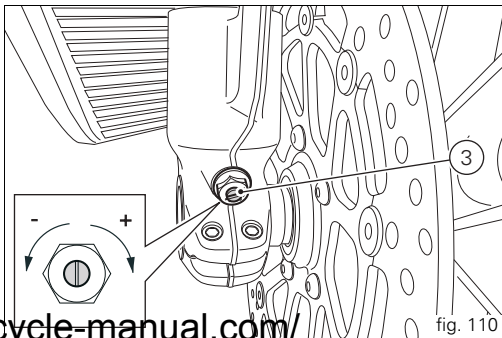

fig. 110
- 3) to adjust compression damping (fig. 110).